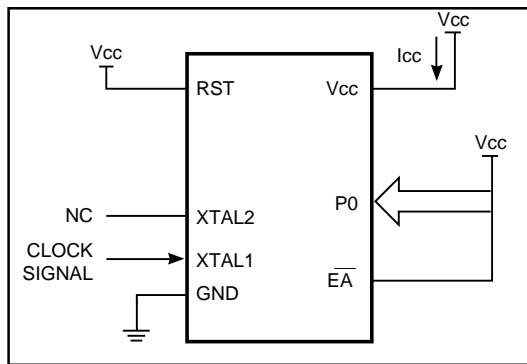

Figure 31. Active Mode
1. See Figures 31, 32, 33, and 34 for I_{cc} test conditions.